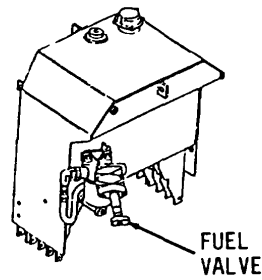

Figure 3-141.
1. Turn fuel valve on lower right, front of fuel tank counterclockwise to close (Figure 3-141).